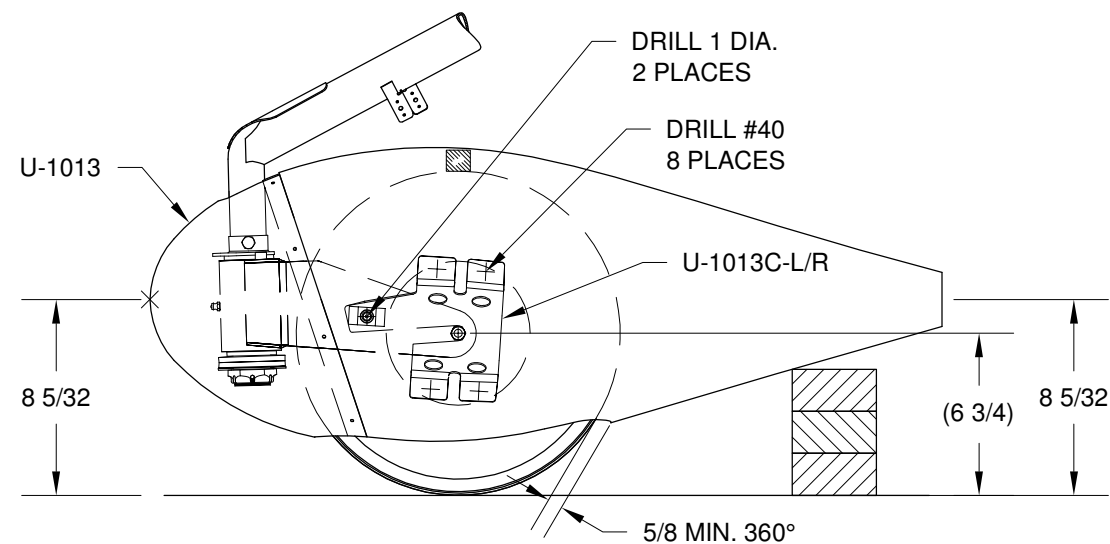

FIGURE 2: ALIGNING FAIRING IN PITCH
Step 2: Recheck the alignment of the U-1013 Wheel Fairing with the floor as shown in Figure 2. Sight through the U-1013B Wheel Fairing Rear and drill through the wheel fairing rear and the U-1013C-L/R Nose Wheel - Fairing Brackets. Drill the 1 in. Dia. access holes as per the callouts in Figure 2. Shim between the tire and the fairing if/as required to hold the fairing in place while drilling. Mark the wheel opening clearance as shown. Remove the fairings and trim the opening.